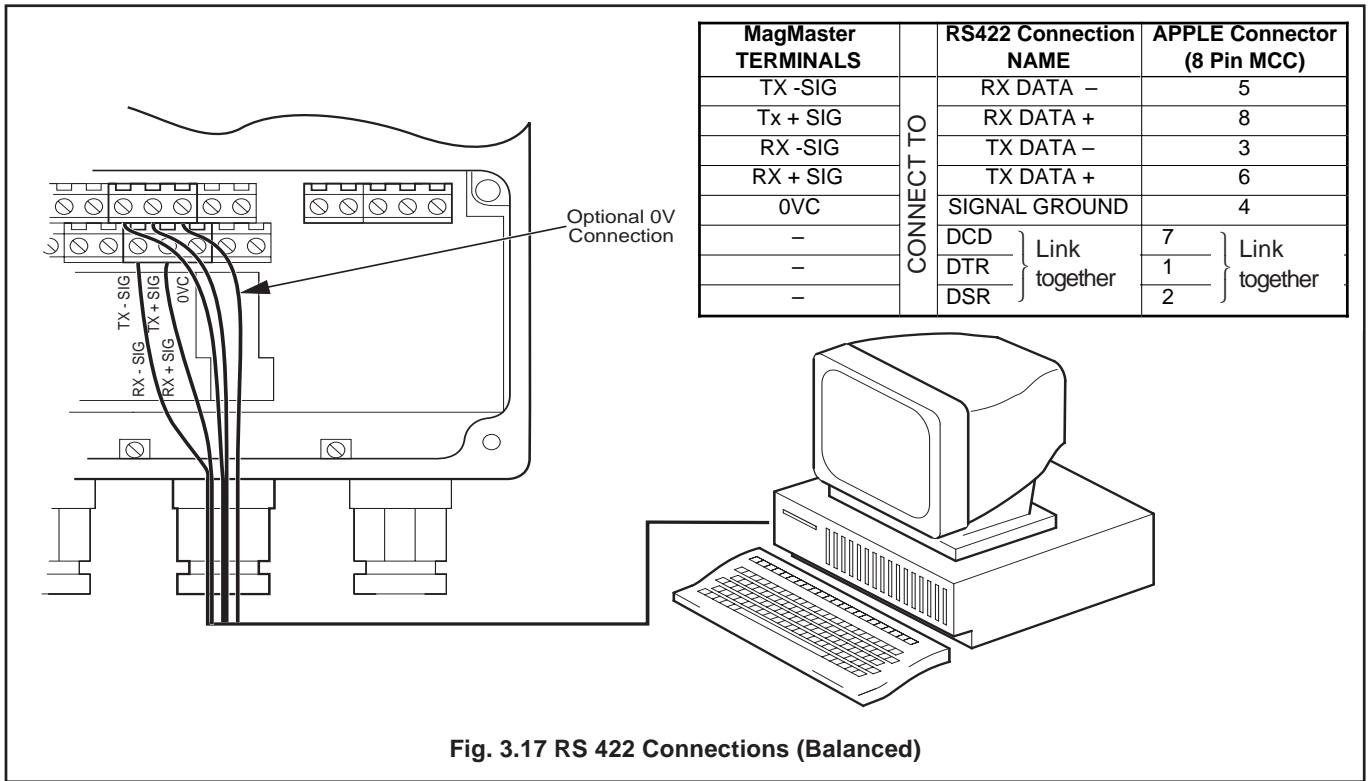

Fig. 3.17 RS 422 Connections (Balanced)
3.7.6 Computer Connection – Fig. 3.17 and 3.18